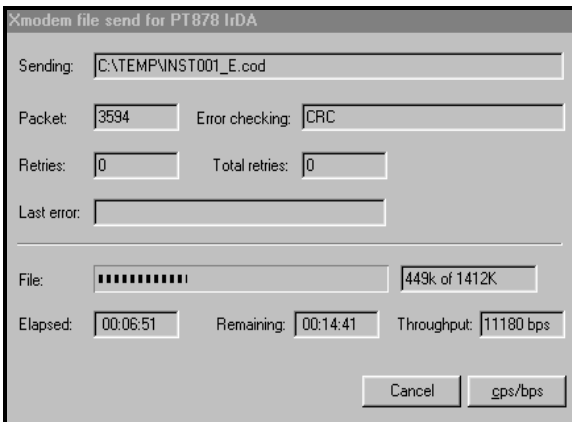

Figure 9-33: The File Transmission Window
4. Click *Send*. For a successful transfer, the PC window appears similar to Figure 9-33 below, while the PT878GC screen displays the program ID, size, load address and a count of blocks being loaded.